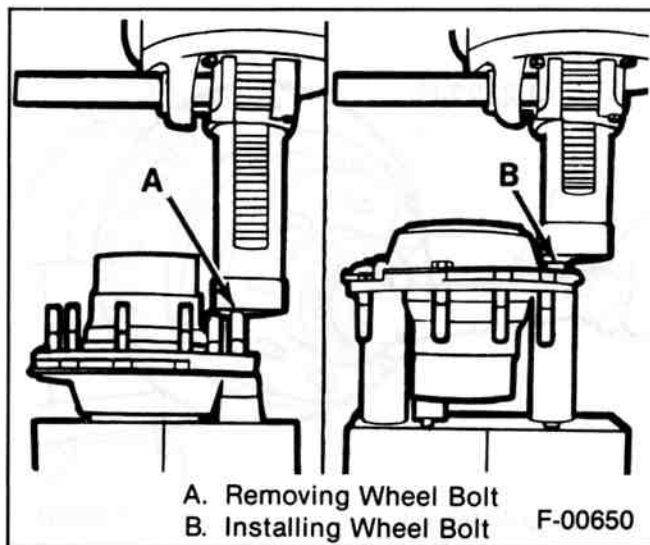

Figure 26—Wheel Bolt Replacement
- Wheel bolts are serrated and may also be swaged in place; however, replacement procedure remains the same for both types of installation. Press the wheel bolts out of the hub flange, then press new wheel bolts into place, making sure of a tight fit. When replacing all of the wheel bolts be sure that the hub oil deflector is in position under the wheel bolt heads. Refer to figure 26.